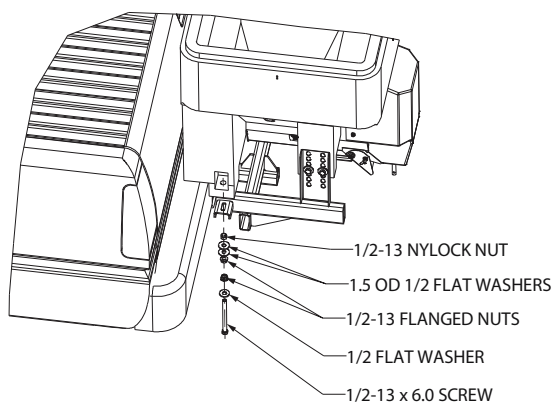

Fig. 5
5. Assembly 1/2-13 x 6.0 screws as shown in Fig.5. Make sure that nuts located between hopper flange and frame positioned exactly as shown. These nuts must not be in contact with hopper and frame at this time.